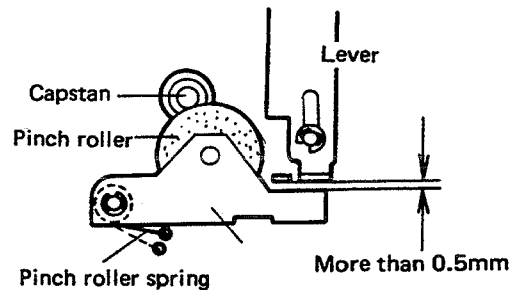

Fig. 6
3. With the roller in contact with the capstan, use pliers to bend the end of the lever shown in Fig. 6 so that the designated dimension (more than 0.5 mm) is obtained. If specified conditions cannot be obtained, replace the pinch roller spring.